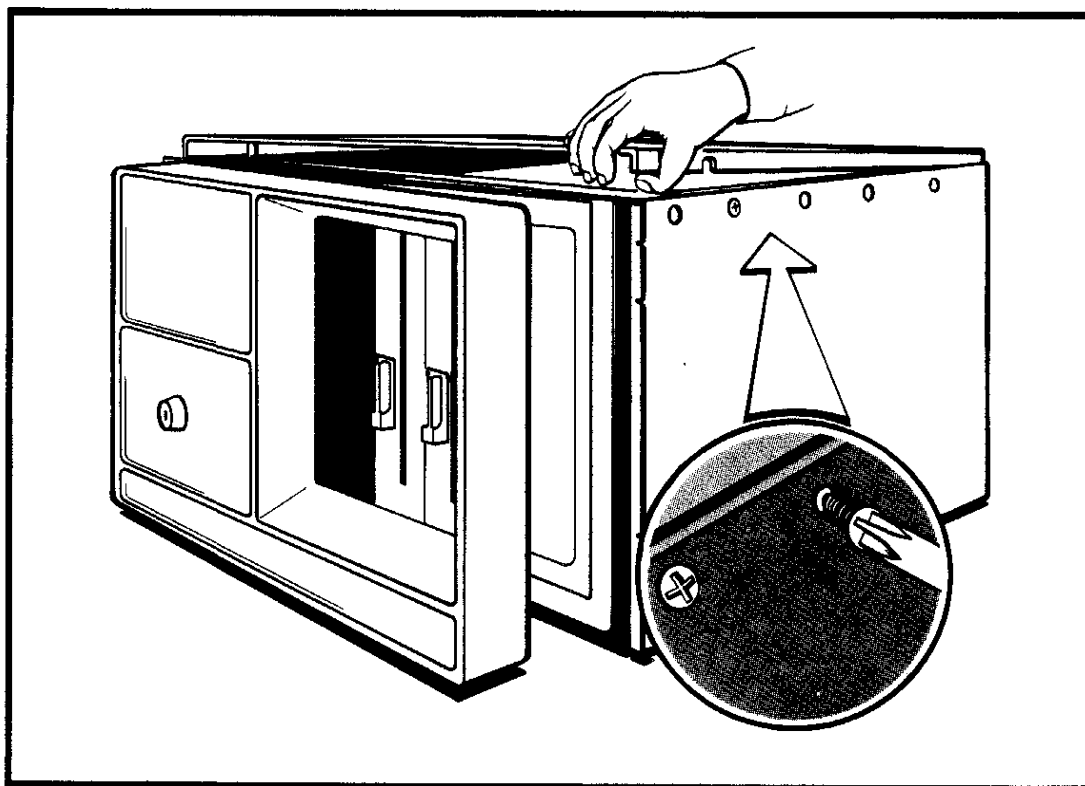

Figure 2-2: REMOVING THE SYSTEM'S COVER
3. Remove the eleven screws securing the system cover (Figure 2-2). Then lift off the cover.